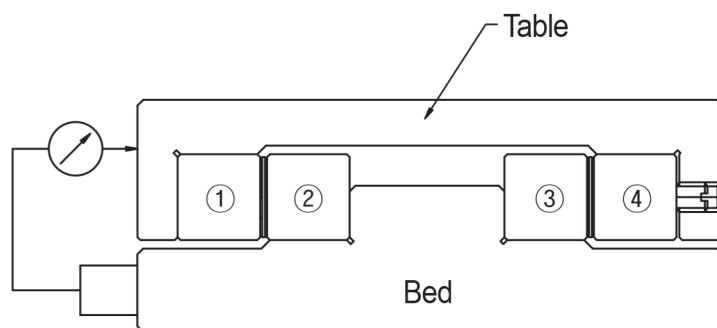

Fig 4. Installation Method
- 1) Press rails ① , ② & ③ firmly against the bed and the table, while correctly positioning the mounting surfaces.Firmly tighten the rail-mounting bolts.
- 2) Temporarily fasten rail ④ to the table and make a sure some space for inserting Roller Cage from the rail ends.
- 3) Position a dial gauge as shown in Fig. 4. While gently pressing the table, tighten Adjust Bolt uniformly until there is no slack.Then, attach stoppers to the rail ends, and set the dial gauge to zero.
- 5) Slide the table from the right and left and complete the installation by mounting the remaining A djust Bolt(@, @ in Fig.4) and the Tightened Bolt. at this displacement in the dial pre-load amount.Tighten the mounting bolts at the adjusted positions securely.move the table to the side, finish the installation as tightening the remaining adjustment bolts @, @ in the same way.